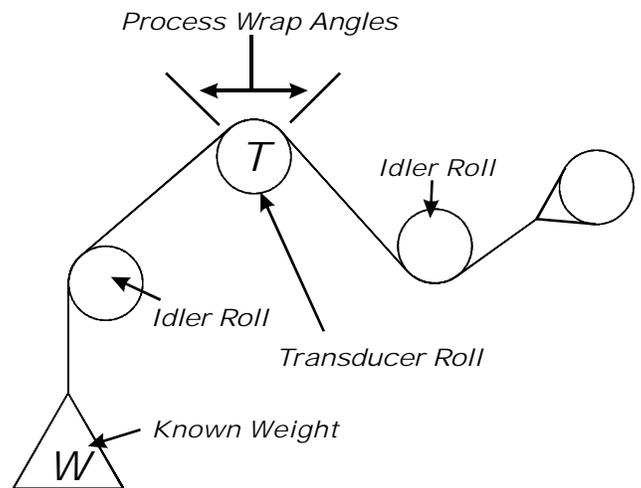

FIG. 2-1 CALIBRATION MECHANICAL SETUP
- Step 3. That the cord and weight are installed correctly and that the known weight is suspended freely with nothing touching it. (See Fig. 2-1)
Traditional Calibration is the method of calibration that uses test weights. We recommend that the test weights total 25% to 100% of the Maximum Tension for your application. Make sure you know the exact weight. See Fig. 2-1 for the proper mechanical configuration for a Hard Cal.